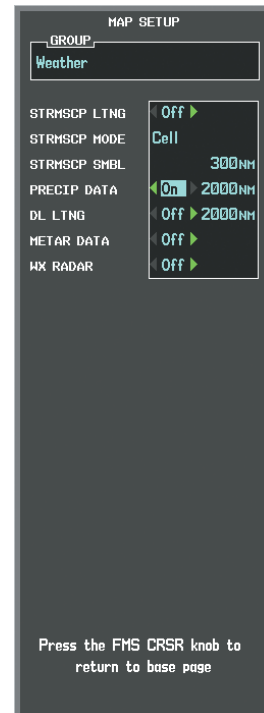

Figure 6-65 Navigation Map Page Setup Menu, Weather Group
- 5) Turn the large **FMS** Knob or press the **ENT** Key to scroll through product selections (Figure 6-65).